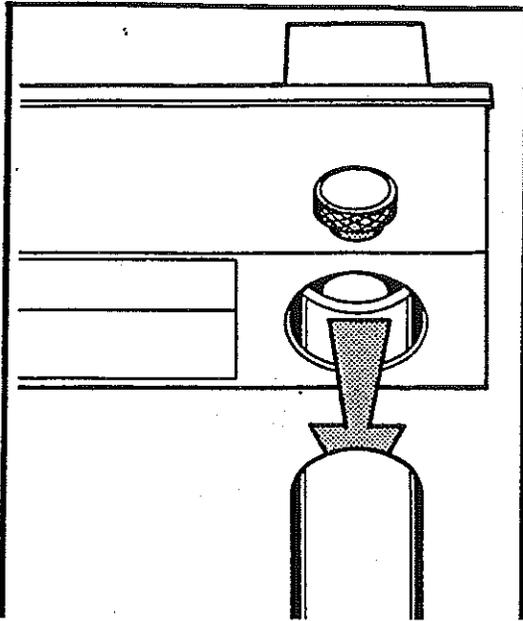
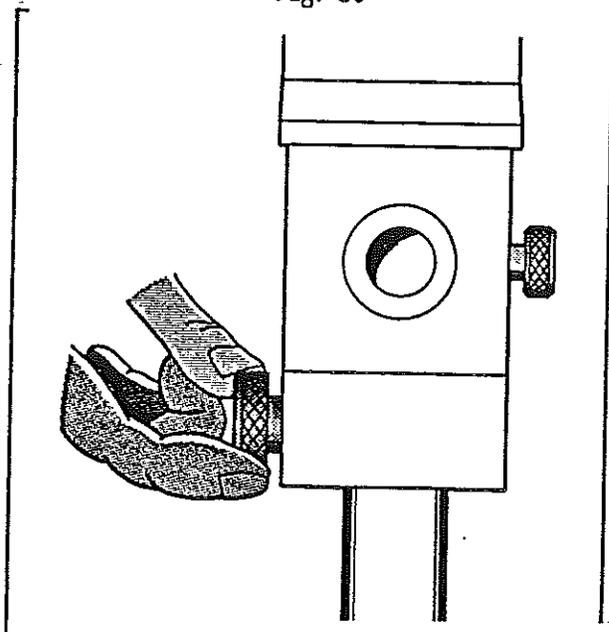

Fig. 30
Fig. 31
- (e) Slide the Camera onto the Flash Head (Fig. 30). Secure locking knob (moderate pressure) on front right of camera (Fig. 31).